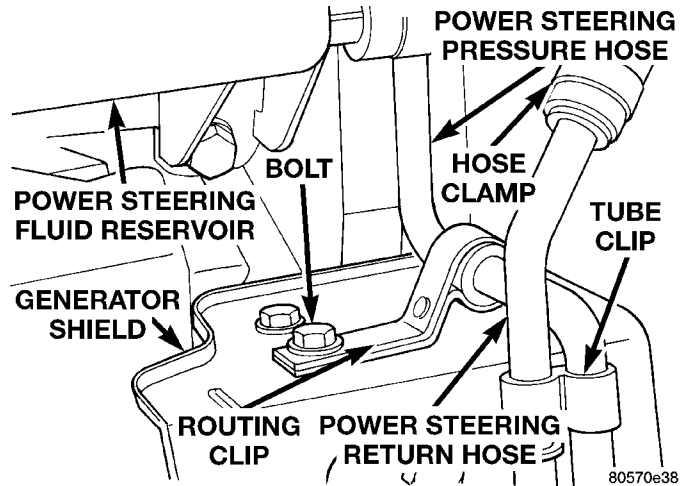

Fig. 17 Tube Clip At Generator Shield
(4) Lower vehicle.
(5) Remove tube clip at generator shield (Fig. 17) attaching power steering fluid return hose to power steering fluid pressure hose.
- (3) Raise vehicle.
- (4) Clip power steering return hose and pressure hose together (Fig. 17).